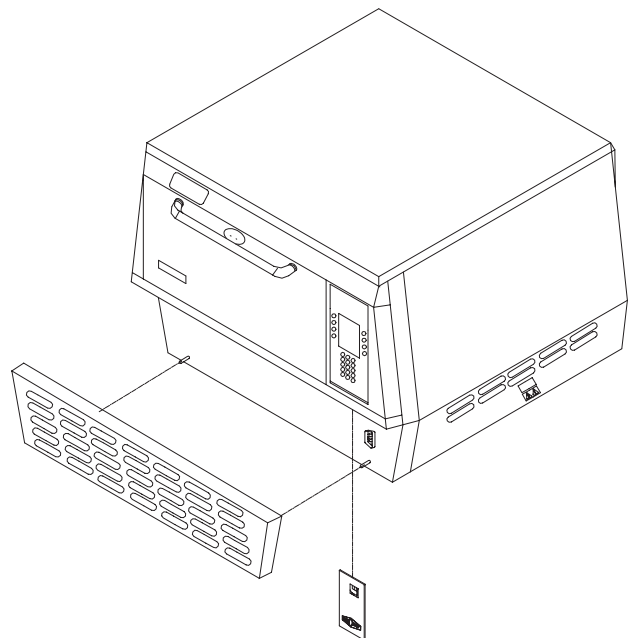

FIGURE 19: Insert Smart Card
3. Remove the lower access panel (Figure 19).
4. Insert smart card into oven (Figure 19).